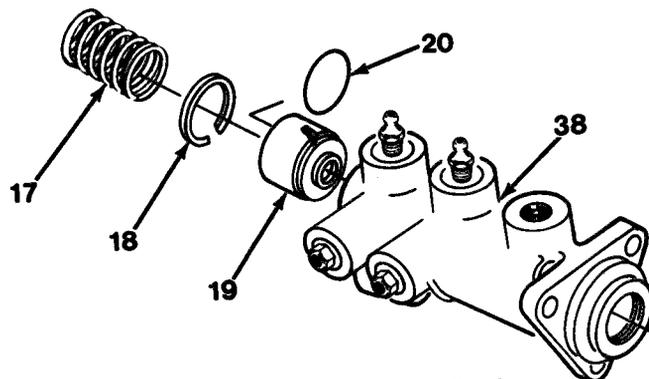

Figure 13-4
10. Remove cage (13), ball (14), spring (15) and O-ring (16).
11. Remove spring (17) from housing (38, Figure 13-4).
9. Install new cup (20, Figure 13-4).